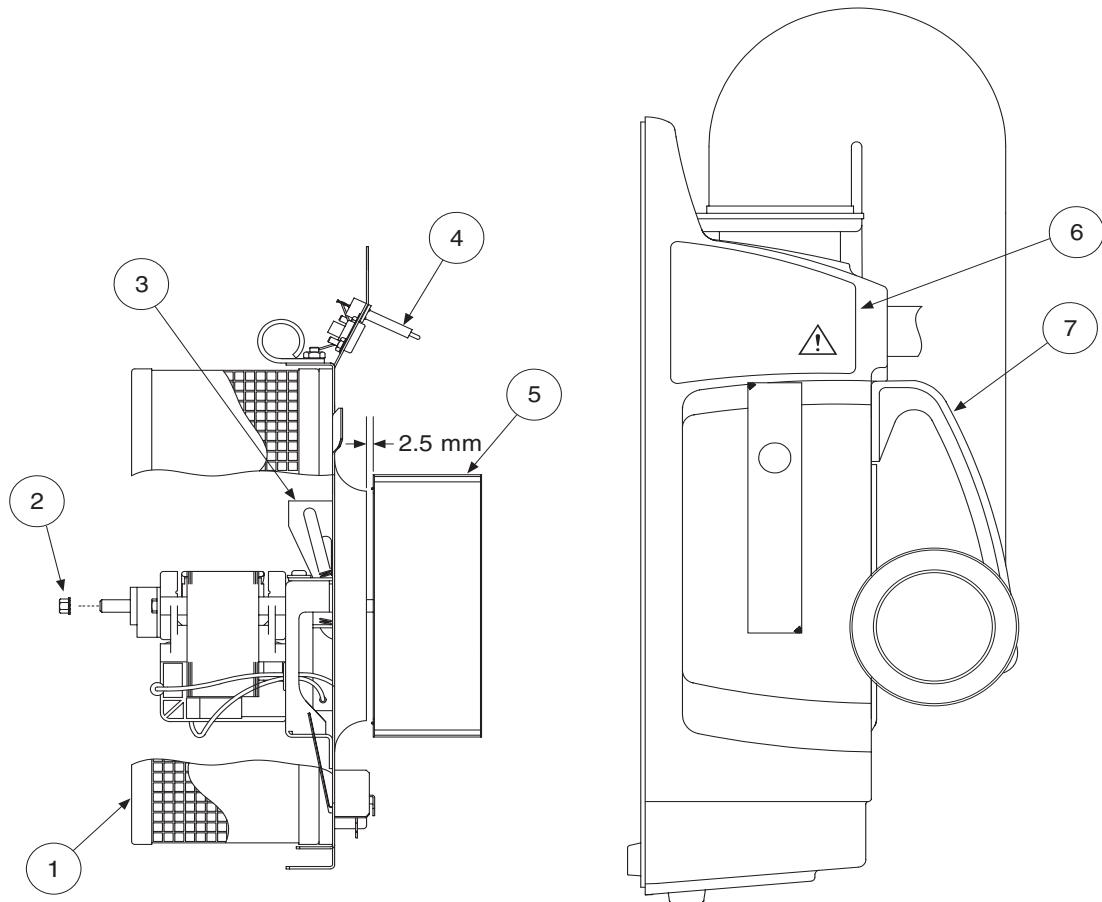

Figure 9 - TC3001 Detail Drawing
15. Reinstall the blower wheel, making sure there is 2.5 mm clearance between the wheel and the blower inlet ring (see fig. 9). (NOTE: the hex screw must be aligned with the flat on the motor shaft.)
16. Reinstall the blower wheel, making sure there is 2.5 mm clearance between the wheel and the blower inlet ring (see fig. 9).